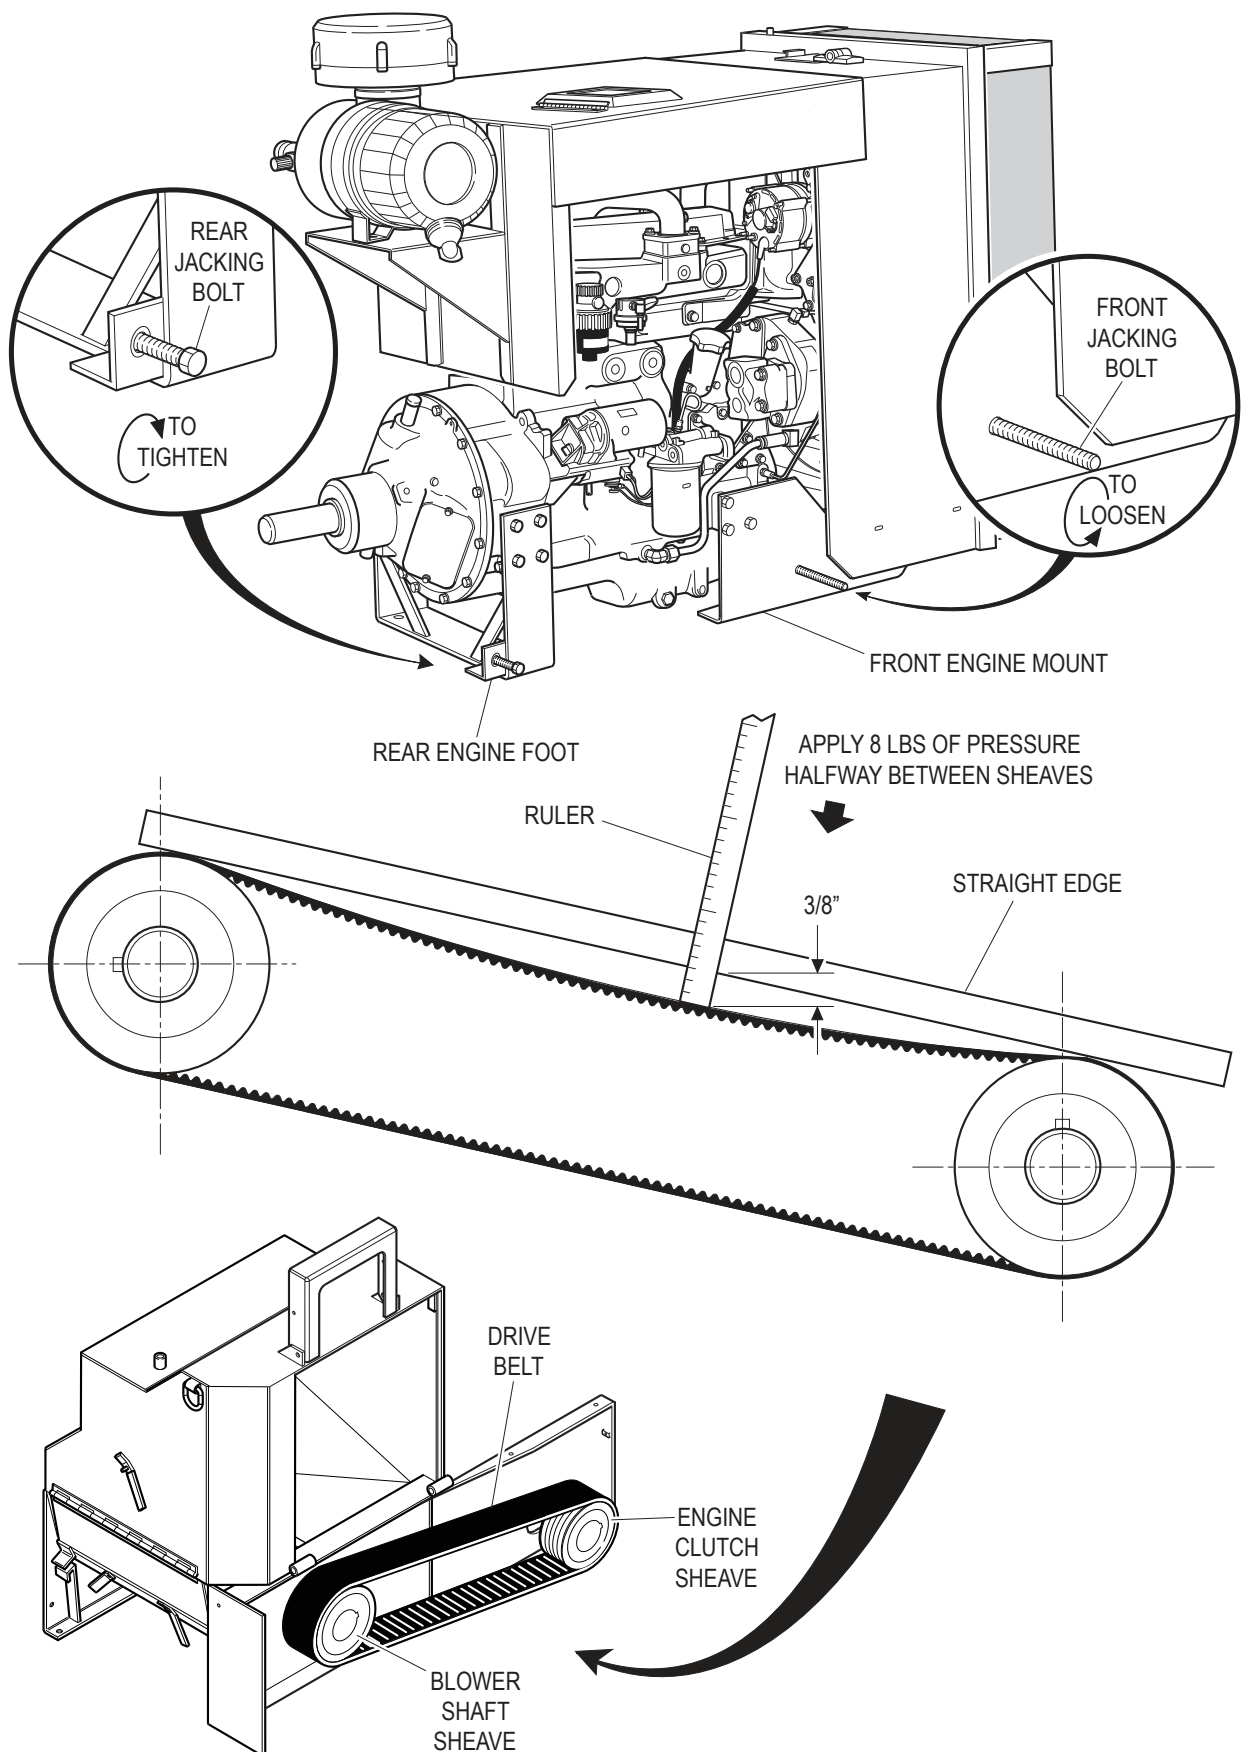

FIGURE 1 - ADJUSTING THE DRIVE BELT
2. Position a straight edge across the belt from the Blower Shaft Sheave and extending across the top of the Engine Clutch Sheave. See Figure 1.